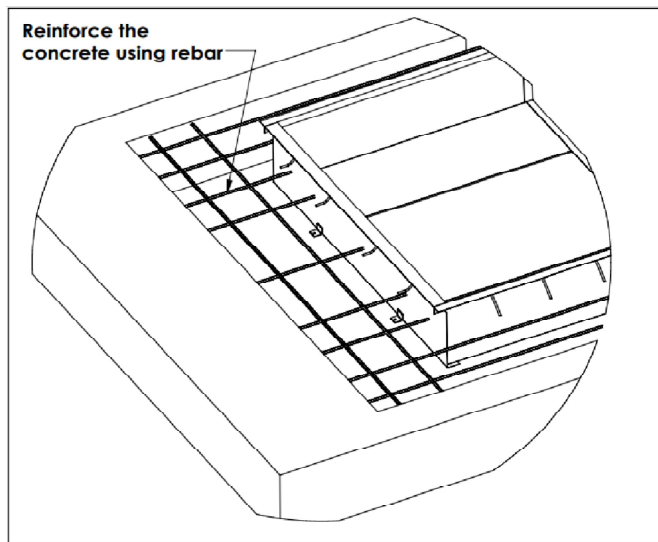

Figure 42: Concrete reinforcement using rebar
10. ___ Reinforce the concrete by installing rebar around the back and sides of the pour-in pan (See “Figure 42: Concrete Reinforcement using Rebar” on page 36).